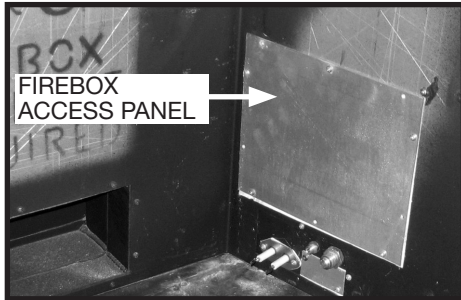

Figure 20: Firebox access panel.
3. Remove access panel from right hand side of the firebox (Figure 20).